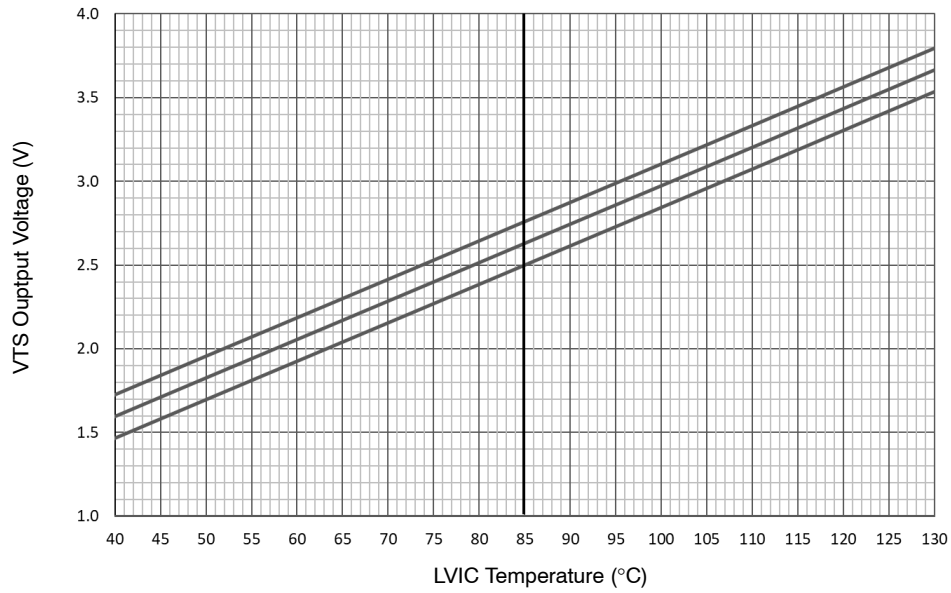
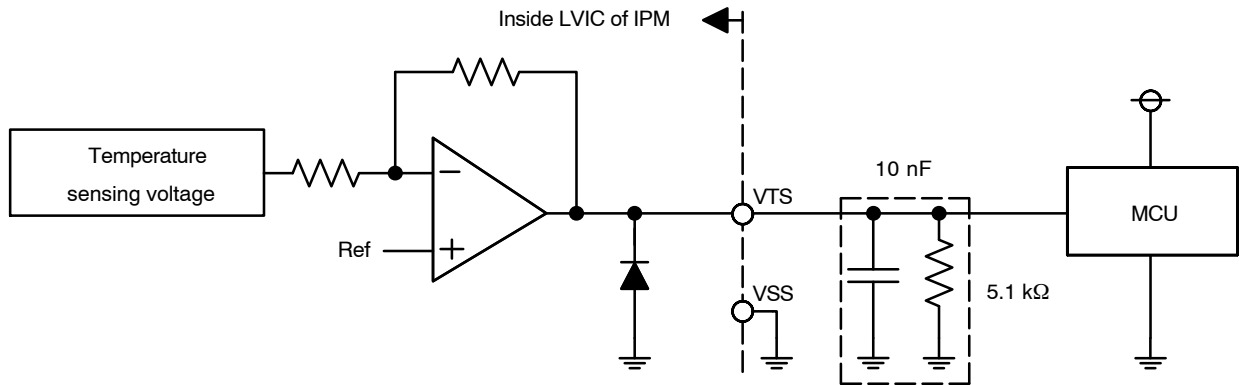

Figure 5. Temperature of LVIC versus VTS Characteristics
Figure 6. Internal Block Diagram and Interface Circuit of VTS
- TLVIC is the temperature of LVIC itself. VTS is only for sensing temperature of LVIC and cannot shutdown MOSFETs automatically. The relationship between VTS voltage output and LVIC temperature is described in Figure 5. It is recommended to add 5.1k Ω pull down resistor between VTS and VSS (Signal Ground) as described in Figure 6 for linear output characteristics at low temperature. To reduce noise, 10 nF cap is recommended as well. Refer to the application note for usage of VTS.